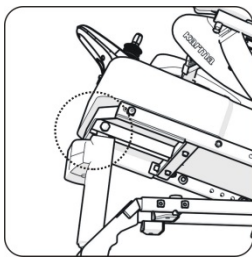

Figure 6-17
6.7.3.1 Use two 17mm open end wrenches to remove the screws for fixing the upper end of the actuator . (Figure 6-17) Remove the screws for fixing the lower end of the actuator. (Figure 6-18)